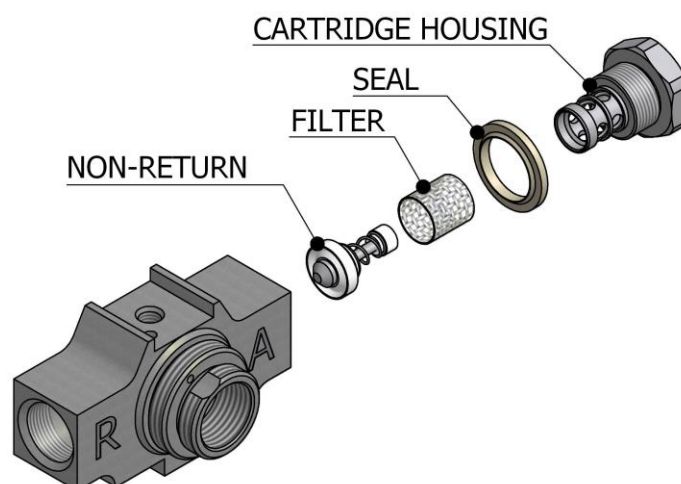

Figure. 20
6. Remove the non-return unit and filter from the Polyol side on the mixing block. Clean the unit with gun-cleaning solvent and also the block housing (see **Figure. 20**, page 20).
7. Remove the non-return unit and filter from the Isocyanate side on the mixing block. Clean the unit with gun-cleaning solvent and also the block housing (see **Figure. 20**, page 20).
6. Unscrew the Isocyanate side cartridge by turning it anti-clockwise, remove it from its housing (see **Figure. 20**). Clean the housing with gun cleaning solvent and make sure no loose particles remain inside.
12. Remove the non-return and filter units of both products (see **Figure. 20** page 20). Clean the non-return units and the corresponding housings with gun-cleaning solvent. Fit the non-return units, the filters, the seals and the cartridge housing in separate vessels with gun cleaning solvent.